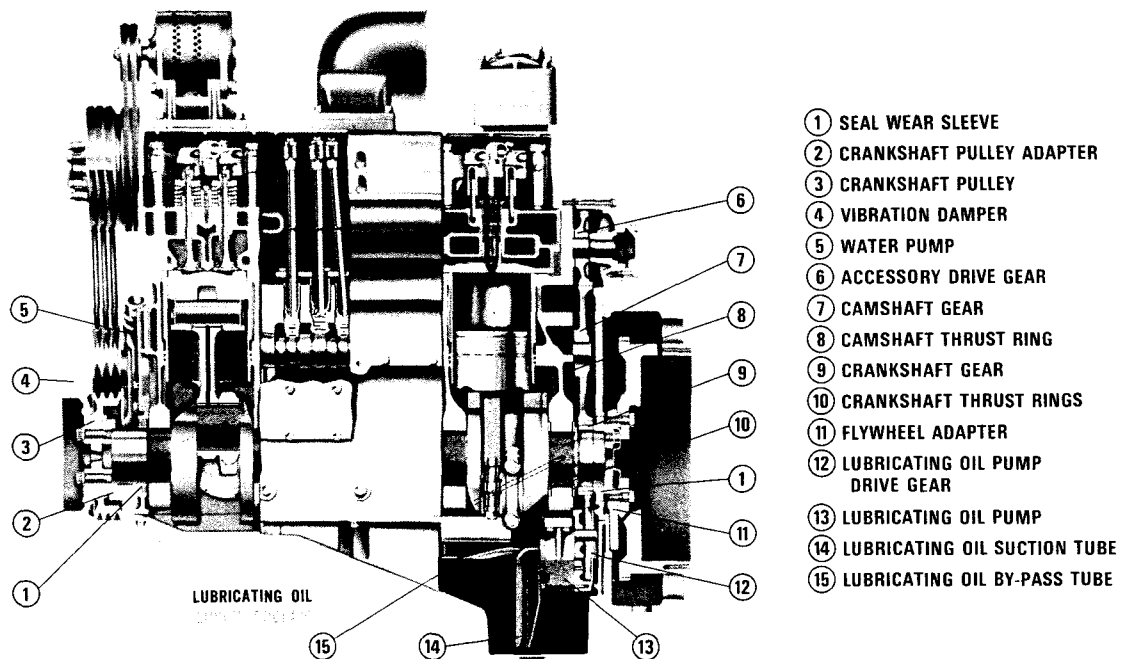

Fig. 5-16, (LWC-16). Lubricating oil and coolant flow — V-903 Engine
1. Oil flows from cooler and filter to right bank of oil drilling at front of engine to front center of block. Oil flows through crossover at front of block to left bank and right bank main oil drillings (drilled length of block). Fig. 5-16.